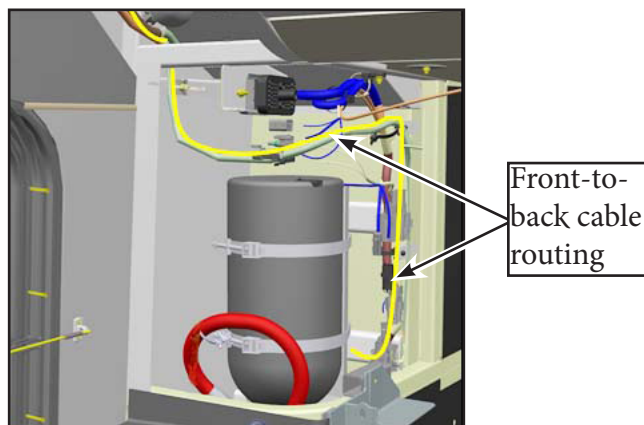

Figure 23 - Front-to-Back Cable Routing in the +IB-X6499A Area (FSS Side)
- 2.10. Continue routing and tie-wrapping the front to back cable behind the Fire Suppression System (FSS) (see Figure 23).